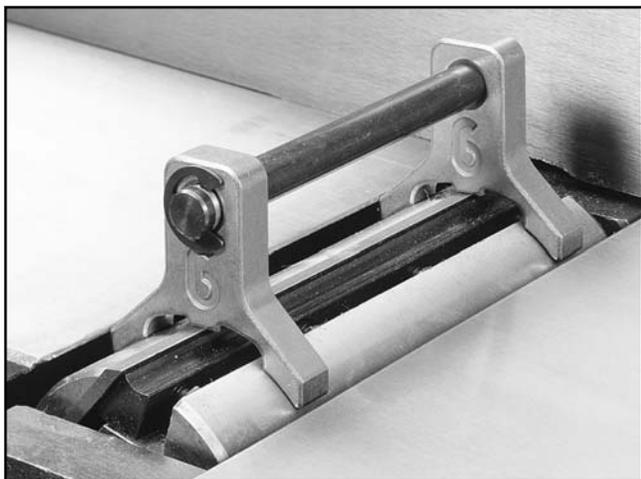

Figure 53. Jig placement on cutterhead.
6. Position the knife gauge over the knife as shown in **Figure 53** and loosen the gib bolts until the knife is completely loose.